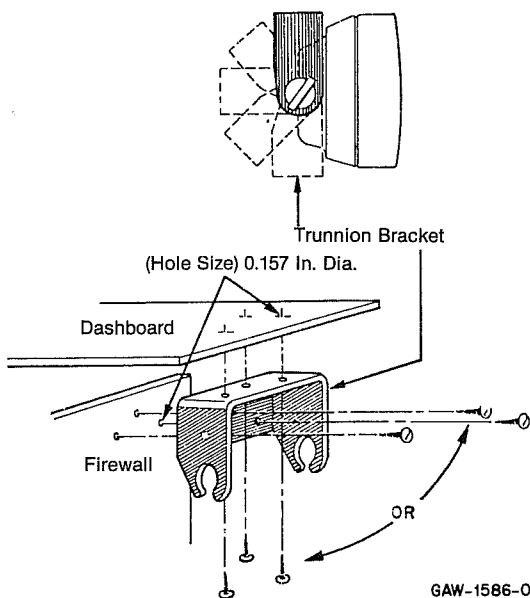

Figure 5
(1) Remove the speaker from the trunnion bracket by loosening the four wing screws.
(2) Choose a place to mount the speaker.
(3) Using the trunnion mounting bracket as a template, mark the locations of the three mounting holes.
(4) Centerpunch and drill a four-millimeter hole at each location.
(5) Mount the trunnion bracket with the screws supplied (Figure 5).